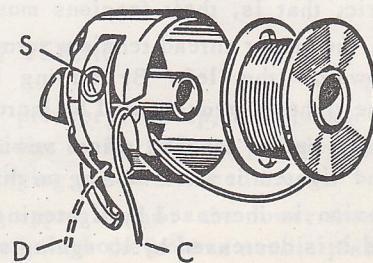
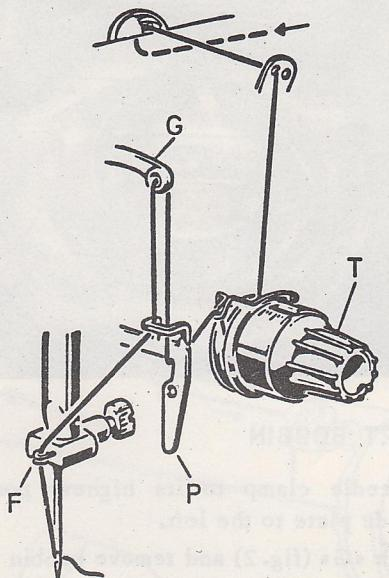

Fig. 3
Fig. 4
- Insert bobbin into bobbin case, with the flange provided with holes towards the inside (fig. 3). Pass thread first through bobbin case cutting (position «C») and then under tension spring (position «D»), leaving about 4 inches of thread hanging out.
Pass thread through points indicated in fig. 4. The length of thread in between thread-guide P and thread-guide F must pass through the slot between the front plate and the face of the machine. Thread must pass through needle eye from left to right, letting about 6 inches hang free, when thread take-up lever «G» is in its highest position.
The upper and lower threads must lock in the centre of the fabric, that is, their tensions must be even. To loosen the upper thread tension, turn button «T» (fig. 4) towards the left. By turning button «T» towards the right the tension will be increased. Loosen the upper tension when sewing on thin fabrics and tighten it when sewing on thick fabrics. Lower tension is increased by tightening screw «S» (fig. 3) and it is decreased by loosening same.